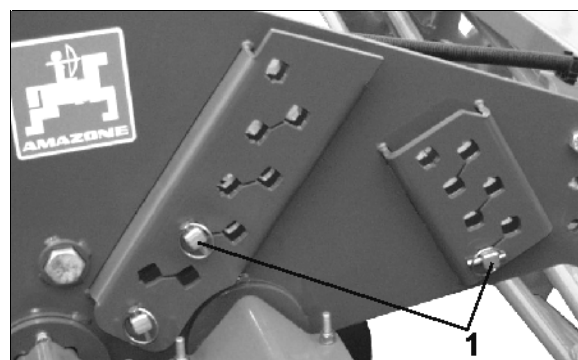

Fig. 29
3. Retighten clip pin (Fig. 29/1).